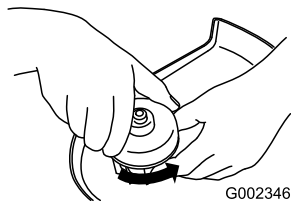

Figure 9
1. Twist the cap off counterclockwise (Figure 9).